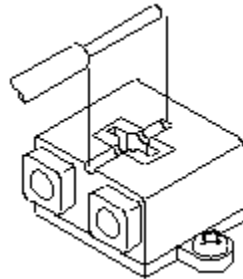

Figure 17: Strip Gauge on the Terminal
2. Peel off the cable coating to the length that corresponds to the strip gauge on the terminal, as indicated in Figure 17.